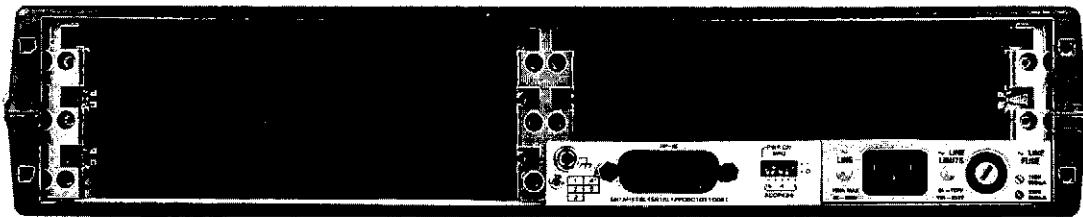

Figure 7-2. Rear Panel View of the 3488A
- c. Select a slot. Refer to Figure 7-2, the 3488A has five slots for installing option assemblies. The 44471A can be used in any of the five slots.